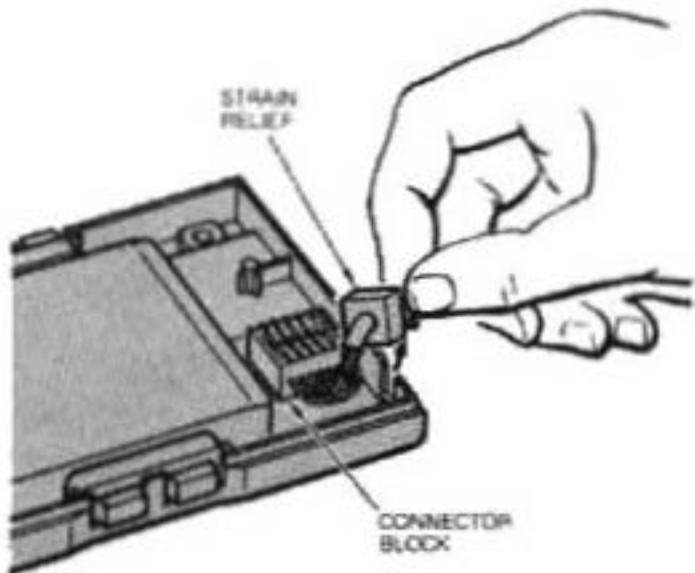

Figure 4-4
6) Remove the cable from the lower housing by lifting the cable strain relief upward out of the housing. Pry up the cable connector block from its mount in the housing. CAUTION! Be careful not to touch or bend the metal prongs! (See Figures 4-4 and 4-5.)
1) Place the replacement cable assembly in the lower housing as shown in Figure 4-4 and 4-5.